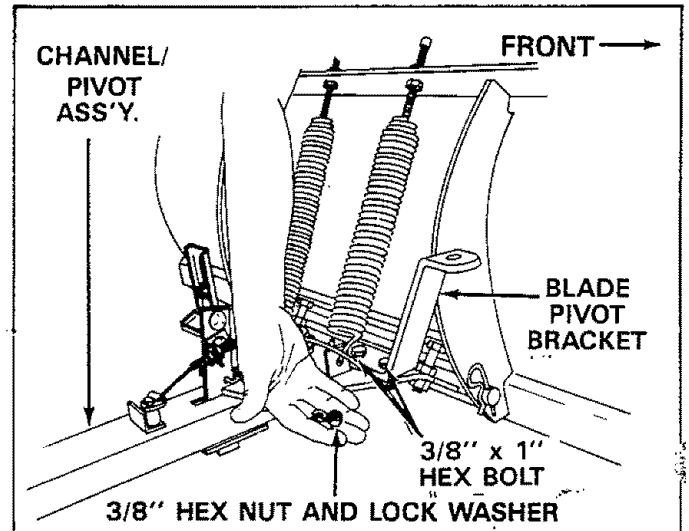

FIGURE 12
- Assemble blade pivot bracket on to top right hand side of channel/pivot assembly. See figure 12. Assemble two 3/8" x 1" hex bolts down through bracket and plate and secure with two 3/8" lock washers and 3/8" hex nuts underneath.